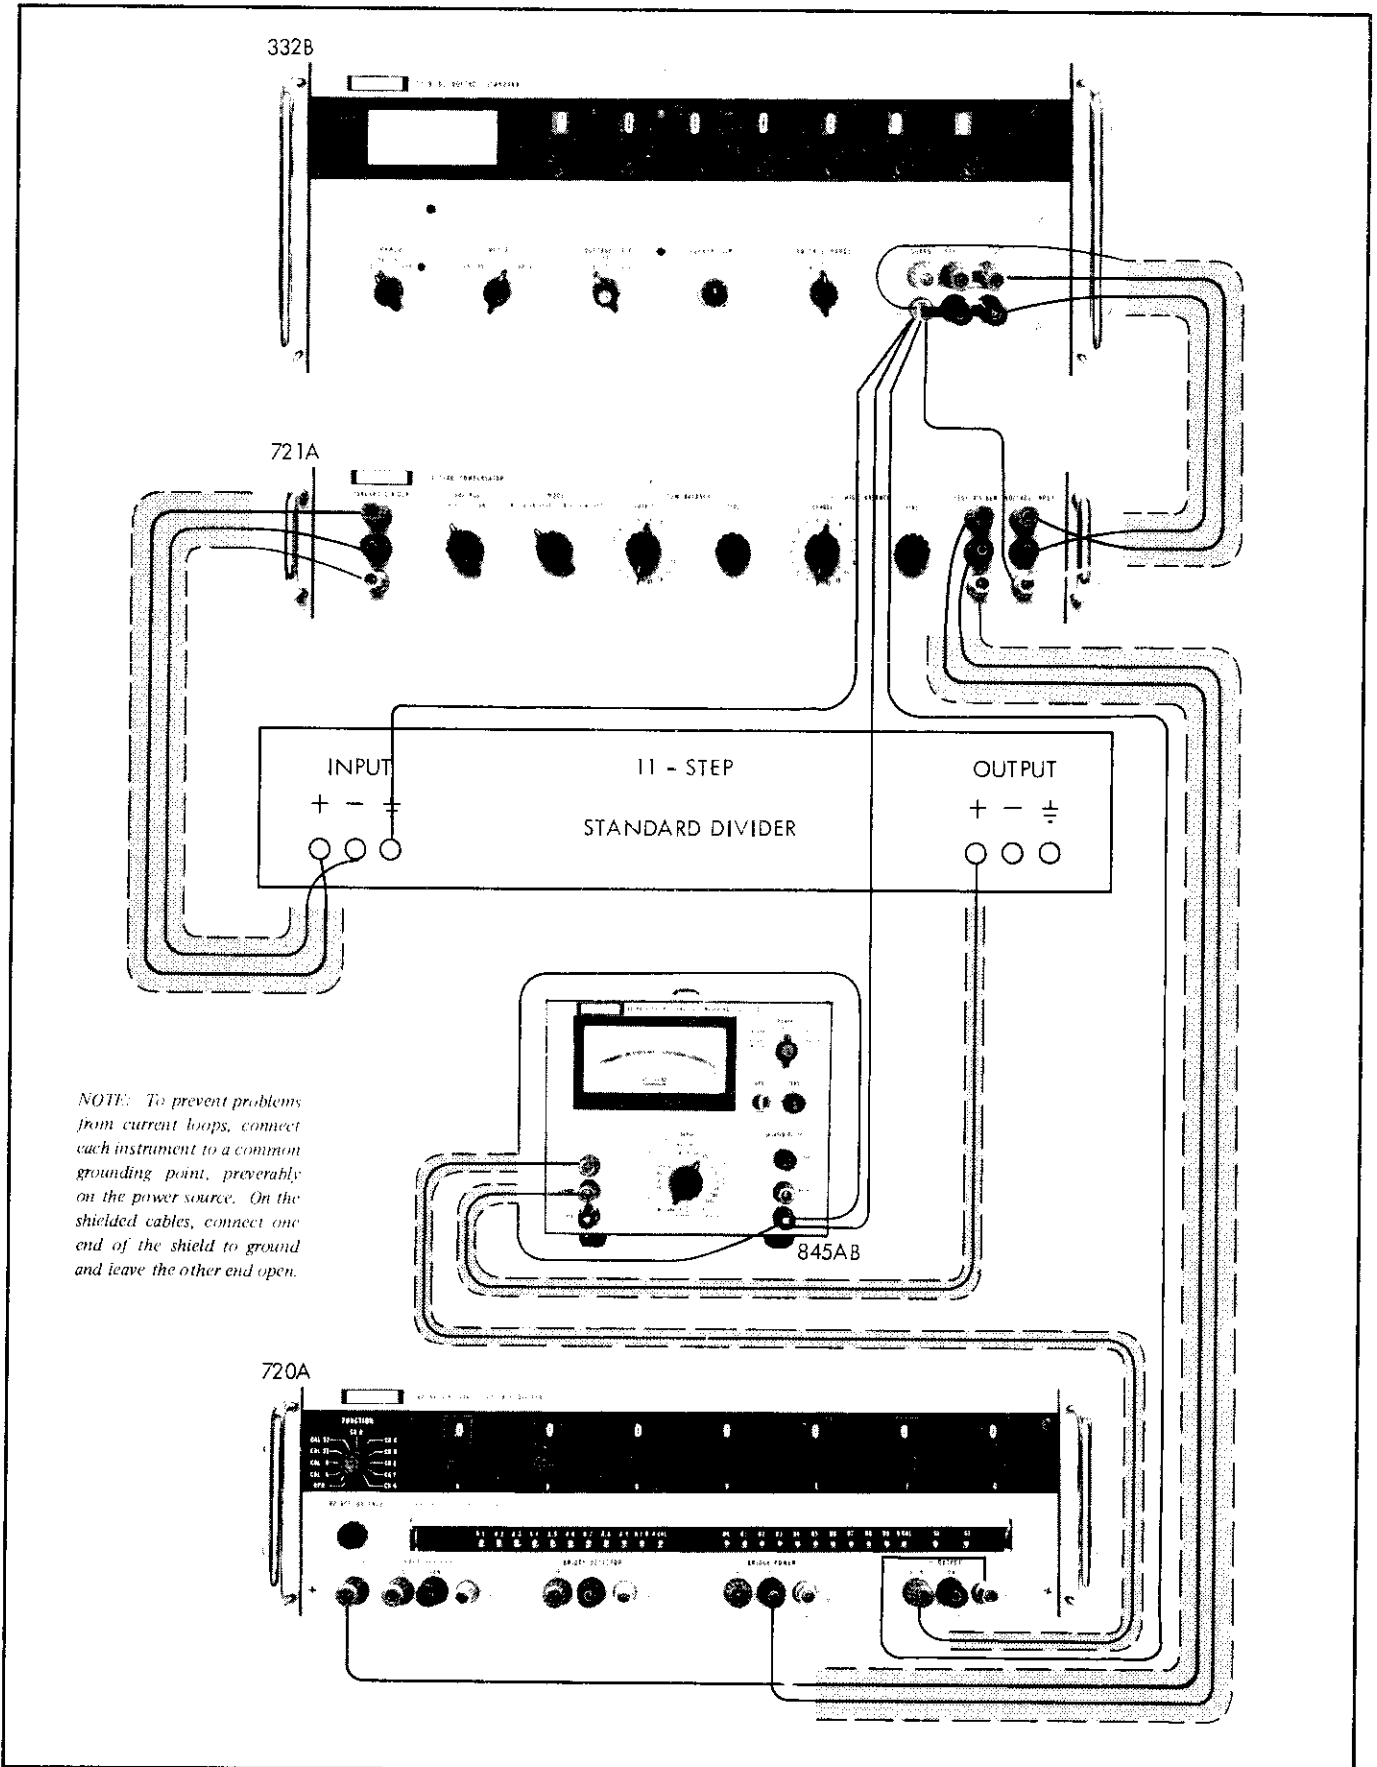
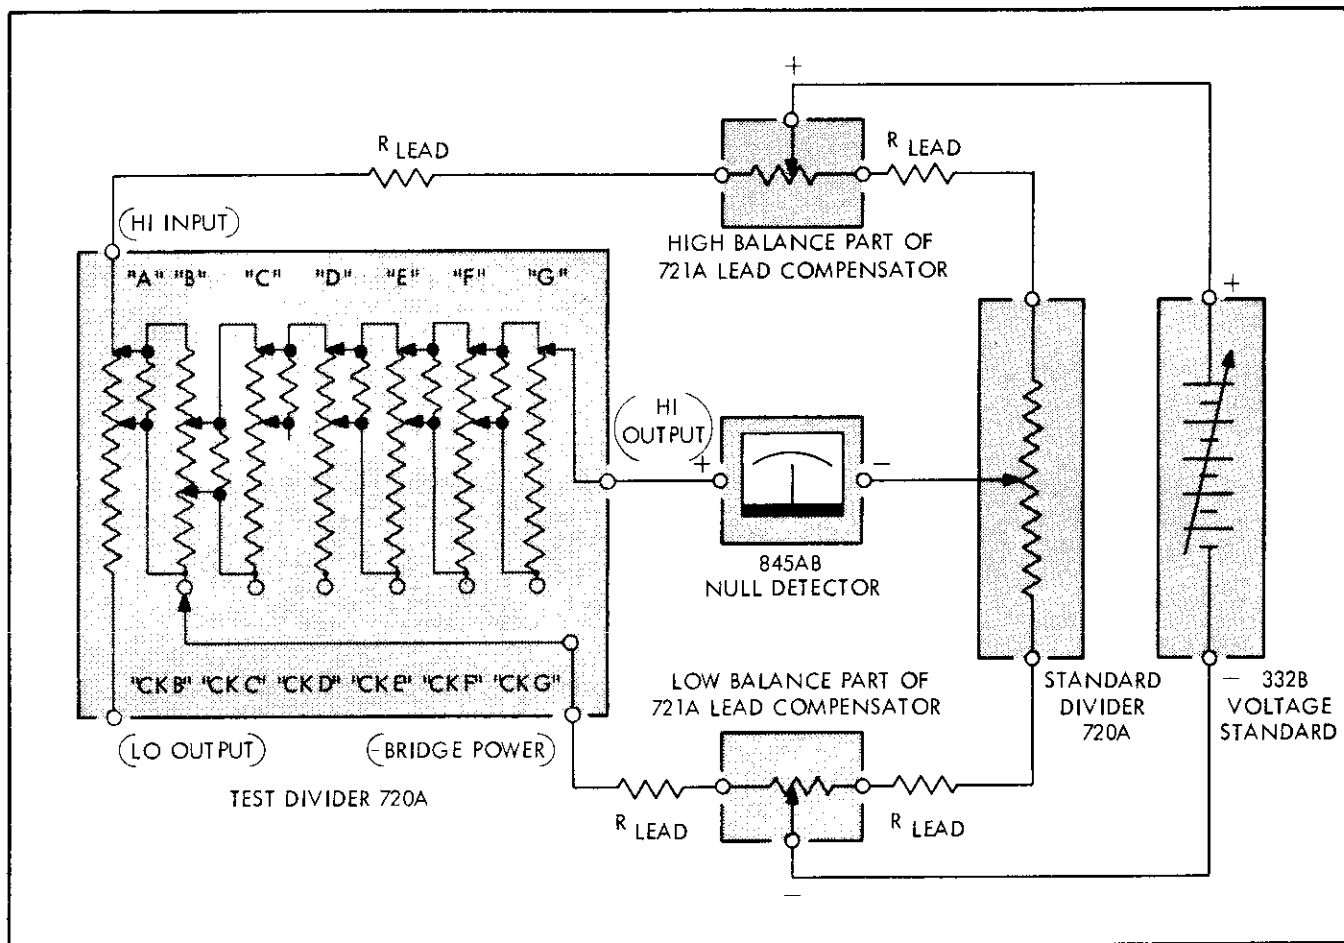

Figure 4-5. EQUIPMENT CONNECTIONS FOR DECADE LINEARITY TEST
Figure 4-6. SIMPLIFIED SCHEMATIC DIAGRAM OF DECADE LINEARITY TEST
- a. Change the test setup to that shown in Figure 4-5.
Figure 4-6 is a schematic diagram of the test setup obtained by interconnecting the equipment as shown in Figure 4-5.